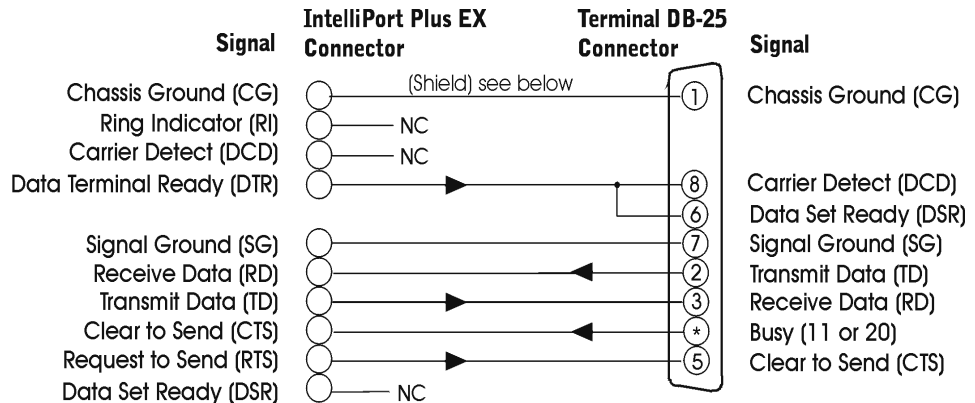

Figure 3-9 Cable Pin-outs for Terminals w/DTR Flow Control
1. The cable shown in Figure 3-9 assumes that the terminal or other devices use its RTS signal for flow control. Many terminals use DTR instead. If this is the case, connect the terminal's DTR to CTS, and configure the port for CTS flow control.